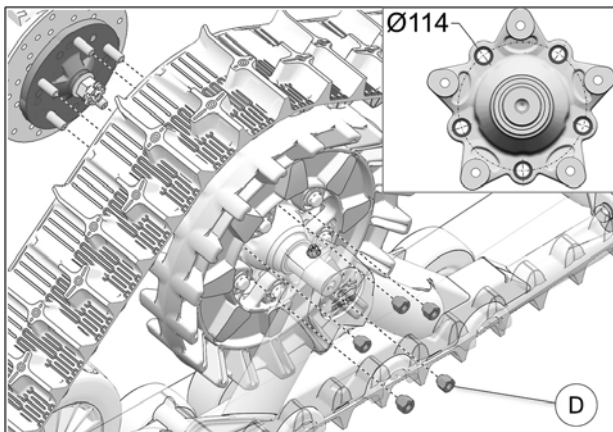

Fig. 20
11. Secure undercarriage to front hub using the provided M12 lug nuts (D). See Fig. 20